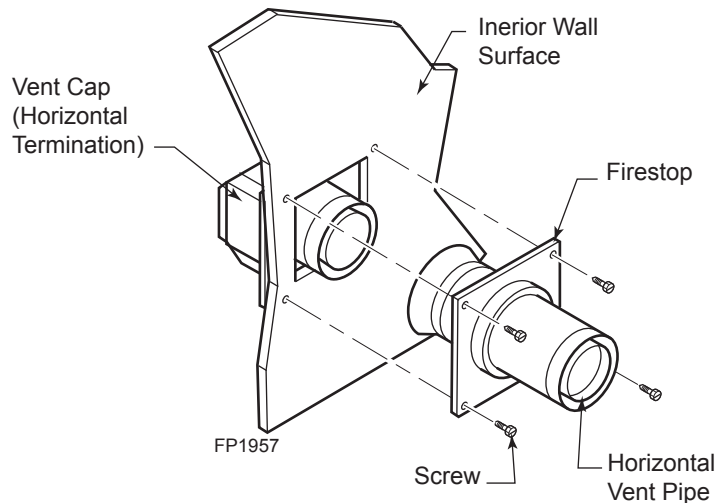

**Figure 19 -
6. Slide the stop over the vent pipe before connecting the horizontal run to the vent cap. *Figure 19*
8. Slide the wall thimble against the interior wall surface and attach with screws. *Figure 19*